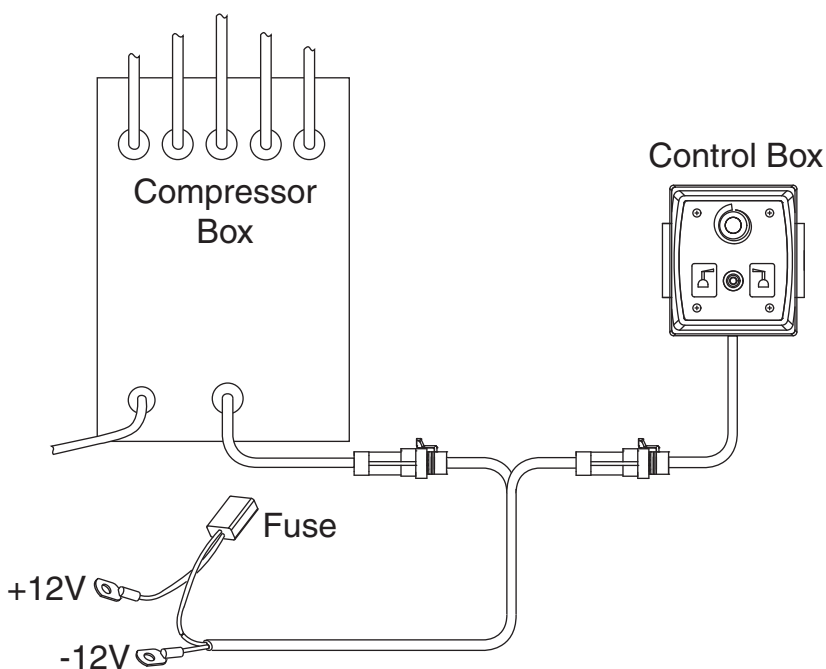

Fig. 4
2. Route wire harness from compressor box up to the double lead of the power supply cable and plug into the male plug (**Fig. 4**).
There is one 30 amp ATC fuse protecting the circuits of the HARDI® Foam Marker. It is located at the beginning of the power cable (**Fig. 4**).